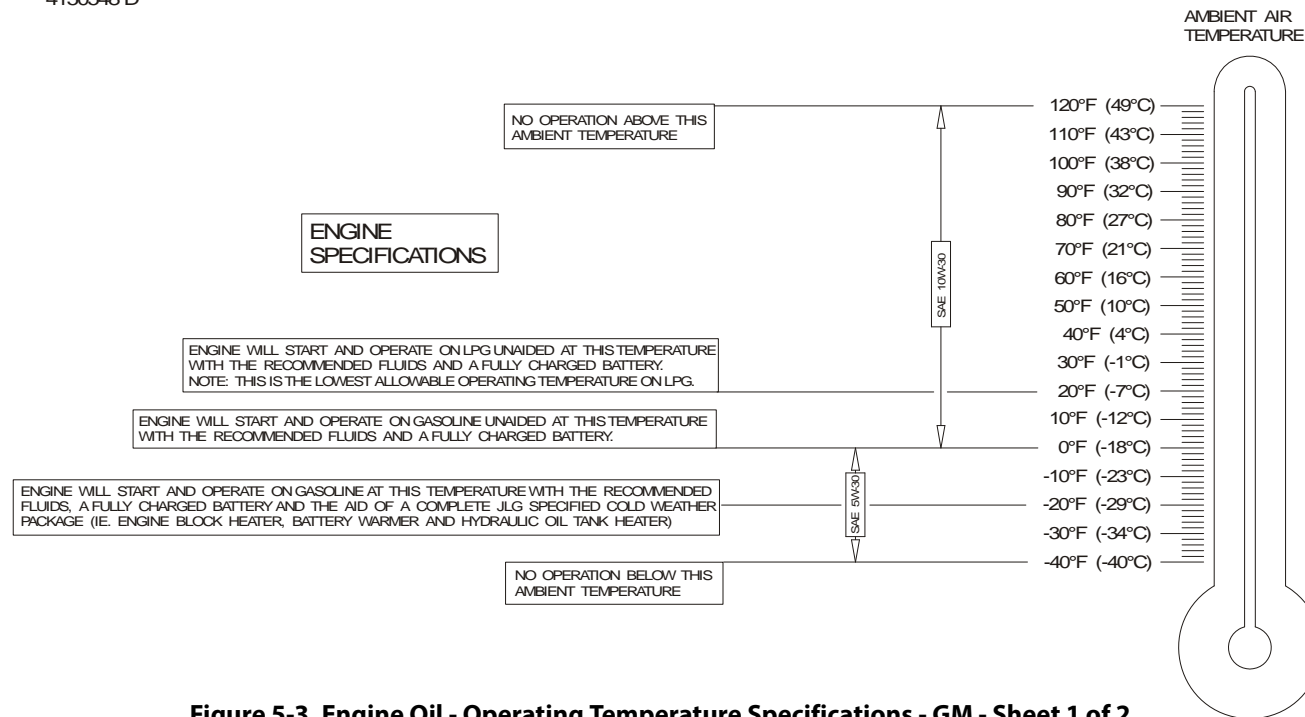

Figure 5-3. Engine Oil - Operating Temperature Specifications - GM - Sheet 1 of 2
- Lube - EO - Spec: API SM/GL class, ILSAC GF-4, GM 6094M, for Viscosity Ref. Figure 5-3. on page 5-10 - Operating Temperature Range Chart